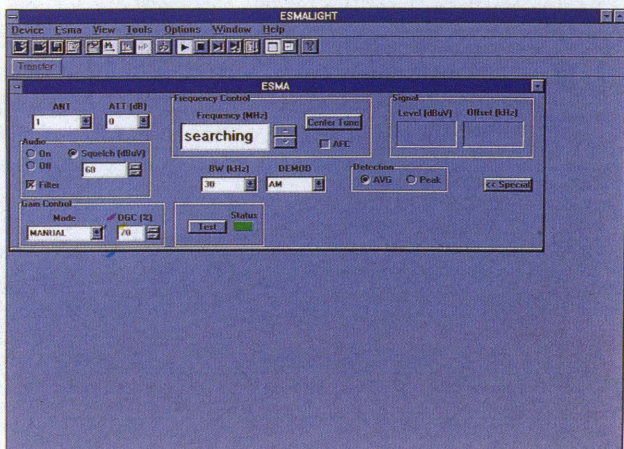

FIG 3
- In search mode the receiver stops on every active channel, allowing the user to capture the information contents (FIG 3).